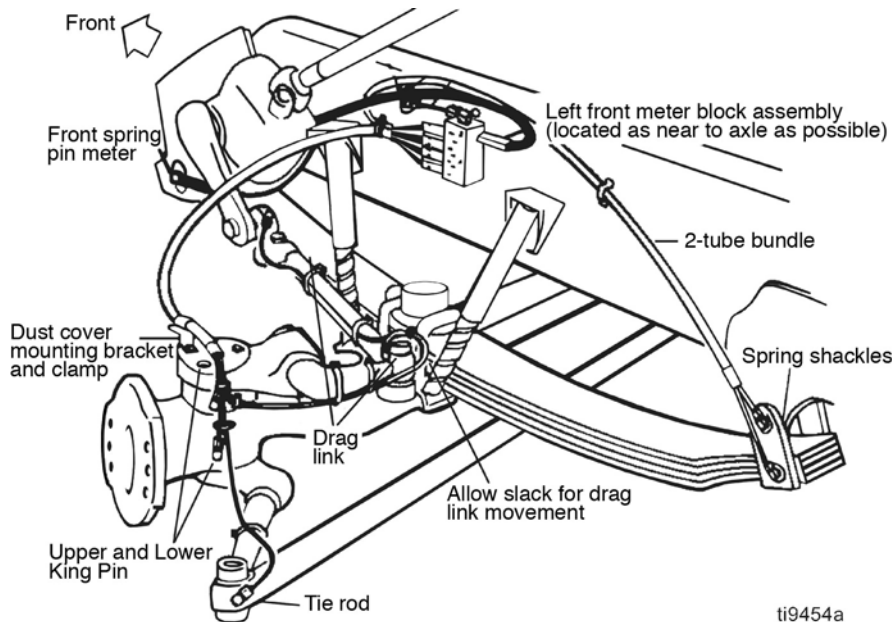
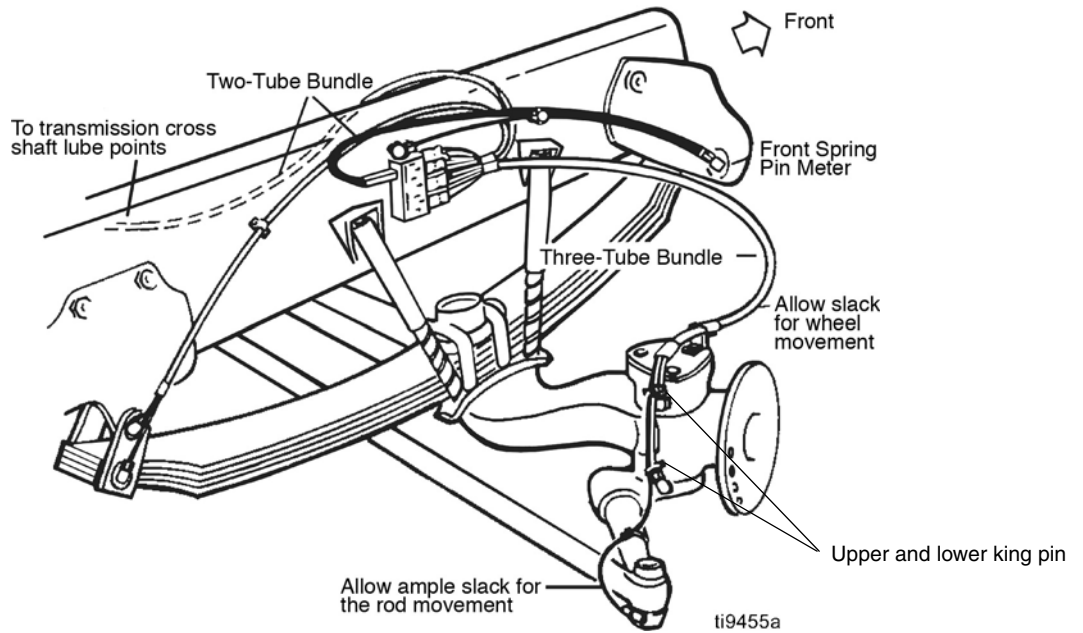
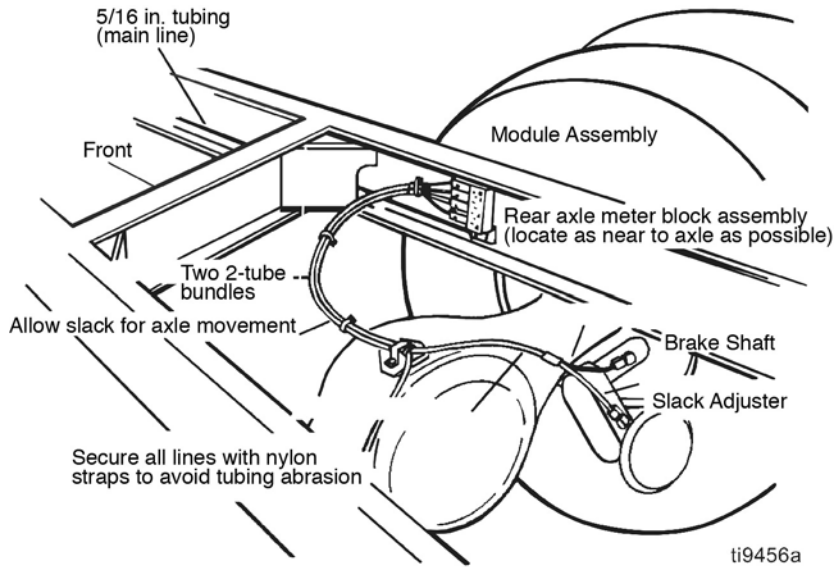
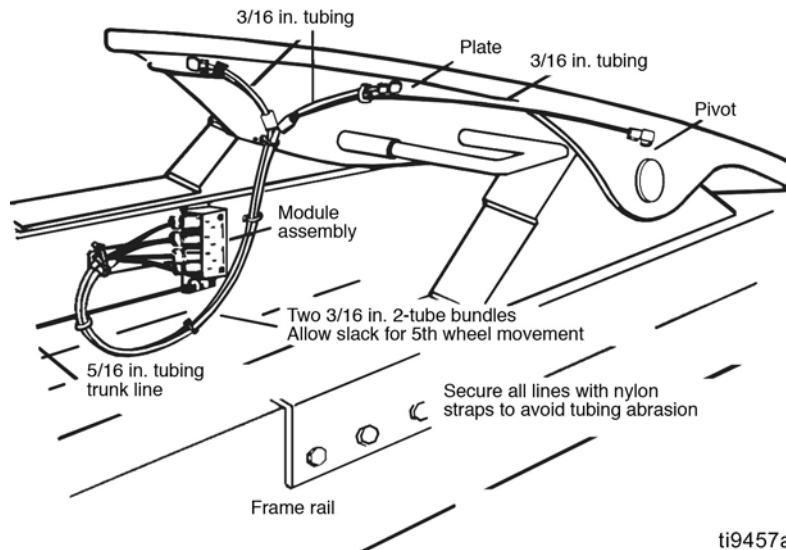

FIG. 5
FIG. 6
FIG. 7
FIG. 8
- Modules (Fig. 6) are mounted with a ported stud (A) through a 5/8 in. (16 mm) hole.
- Grease Jockey kits come with module assemblies for each strategic area of the chassis to be lubricated: Left Front (FIG. 5), Right Front (FIG. 6), Rear Axle(s) (FIG. 7) and Fifth Wheel (FIG. 8).
Left Front Module (FIG. 5)
Right Front Module (FIG. 6)
Rear Axle(s) (FIG. 7)
Fifth Wheel (FIG. 8)